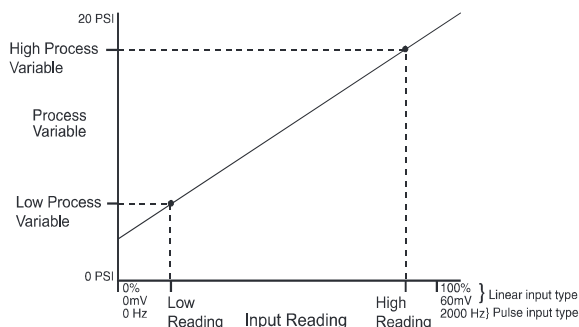

Figure 4.2 Two Points Determine Process Variable Conversion
The scaling function is defined by two points on a conversion line. This line relates the process variable (PV) to the input signal. The engineering units of the process variable can be any units—the graph in Figure 4.2 shows PSI as an example.